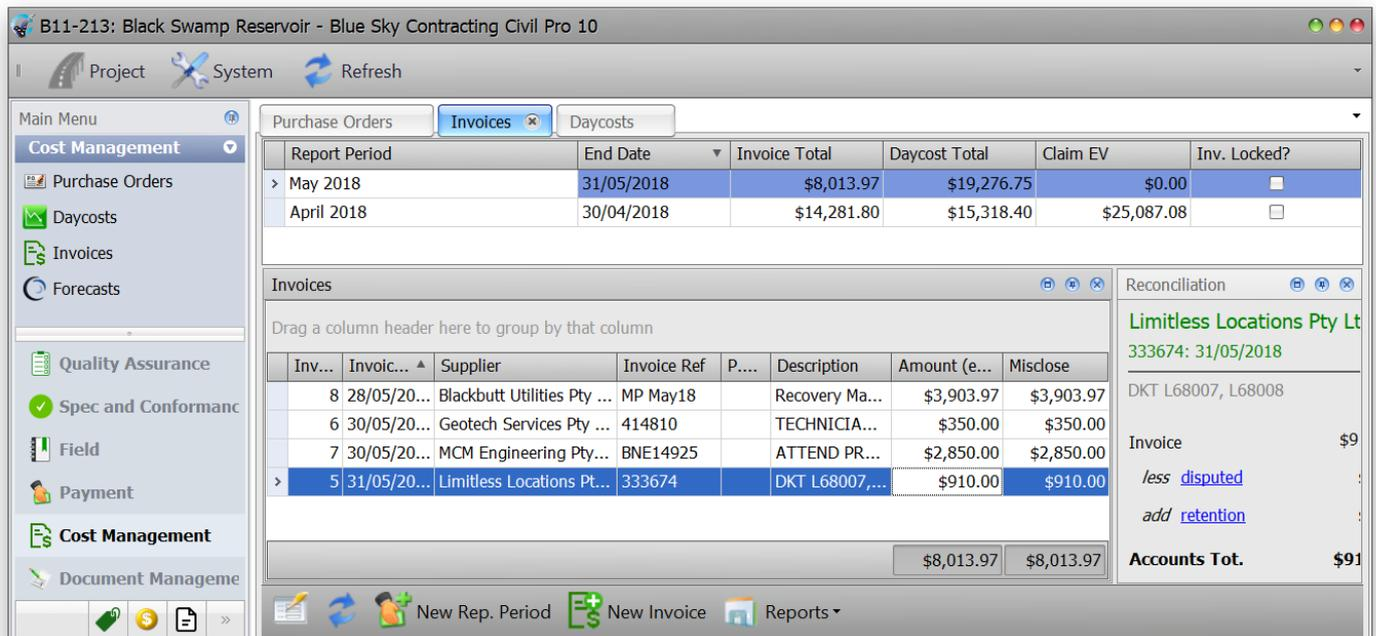

Figure 114 Invoices for May Imported
6. Click the *Import* button. You will then be taken back to the Invoices Register screen which should look like that in Figure 114 below.